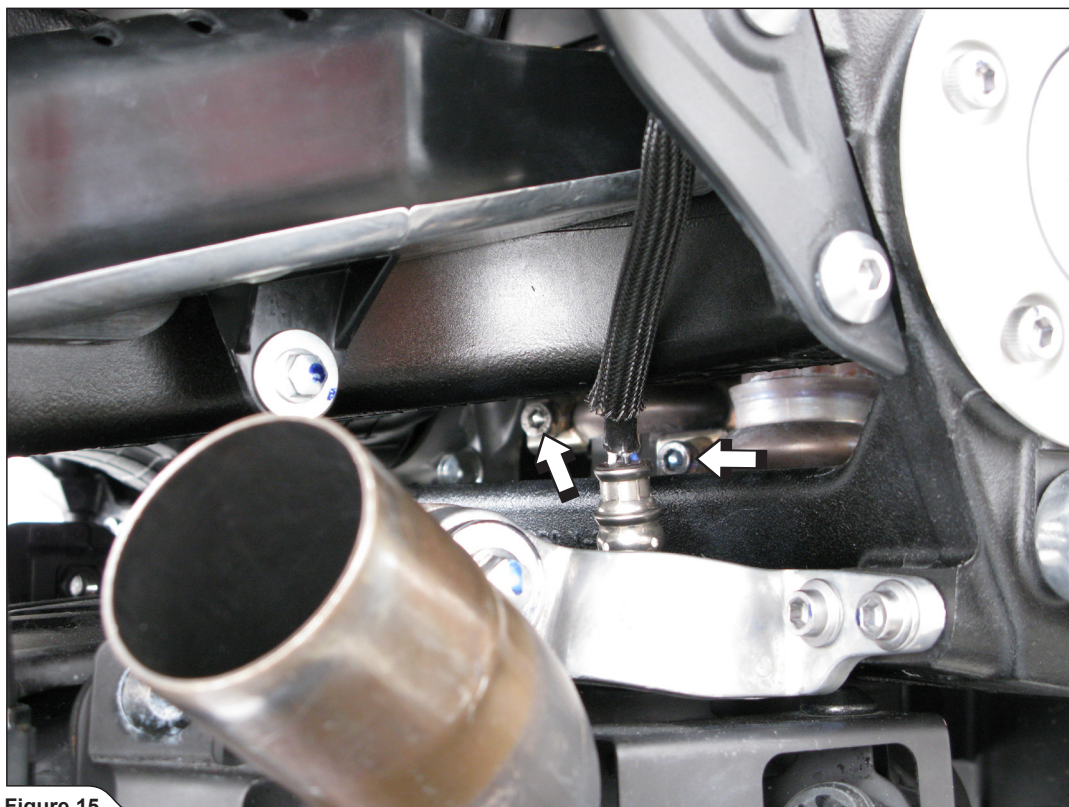

Figure 15
13. For OPEN SLIP-ON only: untighten the metal clamps at the catalytic converter box-header tubes joint (Figure 15).